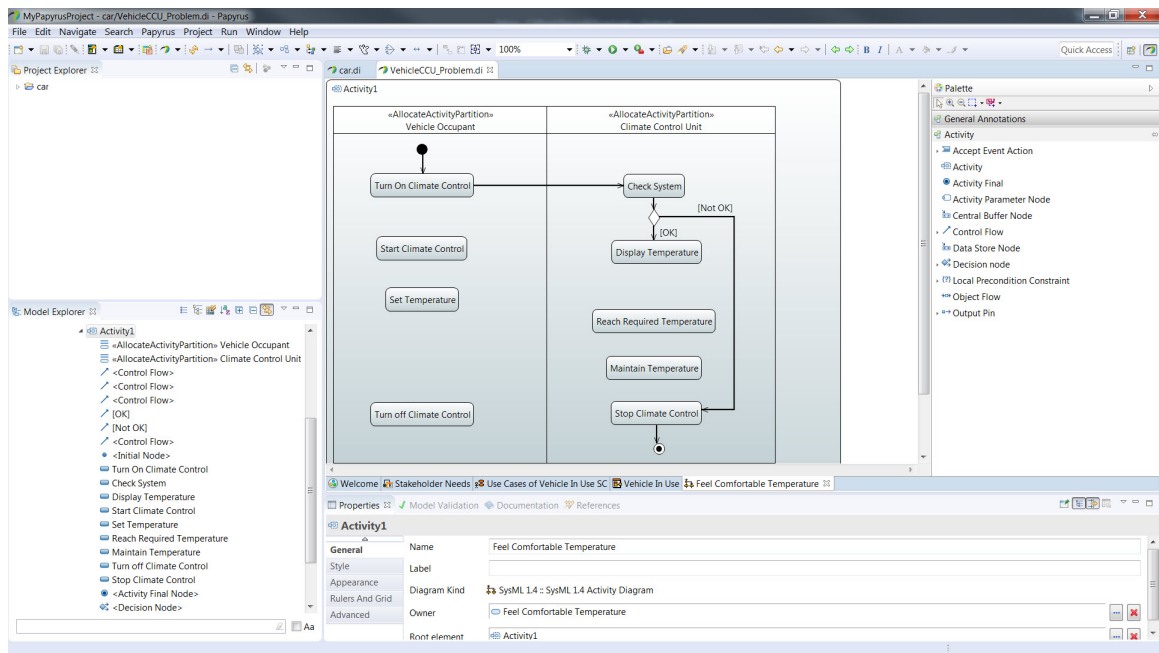

Figure 54: Creating the *[Not OK]* Guard Condition
23. Now create a control flow between the decision node and the *Stop Climate Control* action and type *Not OK* for the name. This represents our other guard condition to be executed if the *Check System* action results show that there is some kind of fault in the system. In this case we will go to the *Stop Climate Control* action. Note that you can Click on the control flow line to break it into segments and then drag these control points to reposition the segments. Add an unnamed control flow between the *Stop Climate Control* action and the final node. Your activity diagram should look like (figure 54).